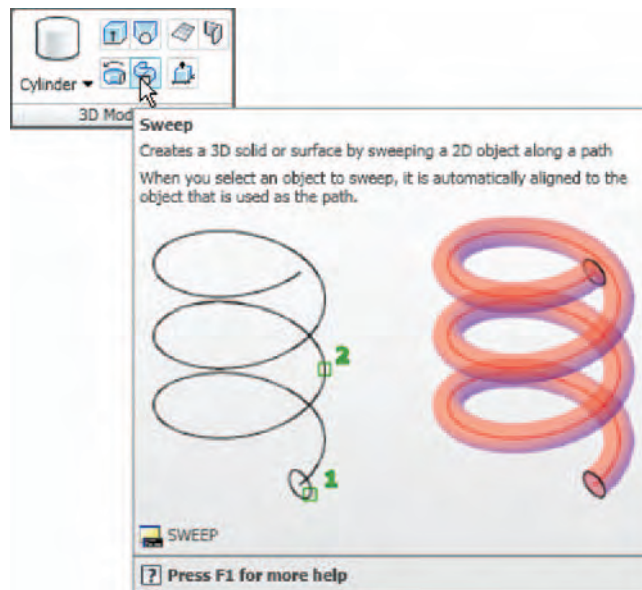

Fig. 12.37 Selecting the Sweep tool from the Home/3D Modeling panel
To call the tool click on its tool icon in the **Home/3D Modeling** panel (Fig. 12.37).
3. Place the window in a **View Cube/Isometric** view and *click* the **Sweep** tool icon (Fig. 12.37). The command line shows: